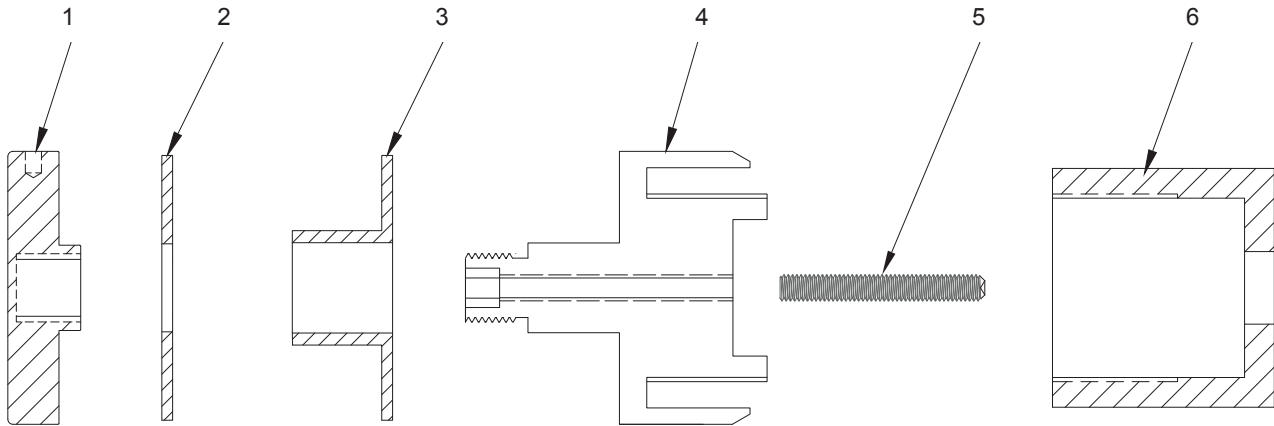
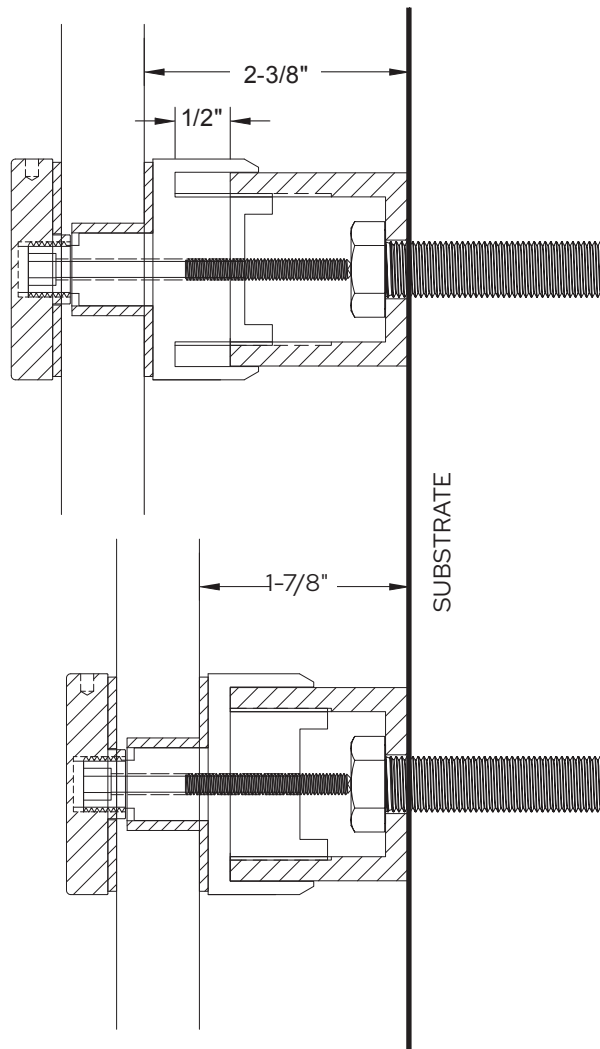

Figure 1a
Figure 1b
**PLEASE REFERENCE FIGURE 1A ABOVE FOR COMPONENT CALL-OUTS IN THE FOLLOWING INSTRUCTIONS:**
2. Secure standoff base (6) to substrate using recommended fastener and torque value supplied in CRL's SRS Adjustable Standoff engineering report.
3. Using 1/4" Allen wrench to fasten mid-body assembly (4) onto standoff base and fasten to the desired projection from substrate to glass surface. Add inside body gasket (3) on top of mid-body assembly.
- a. Standoff bases have a 1/2" glass projection adjustment as shown in Figure 1b below; substrate to glass surface from 1-7/8" to 2-3/8".